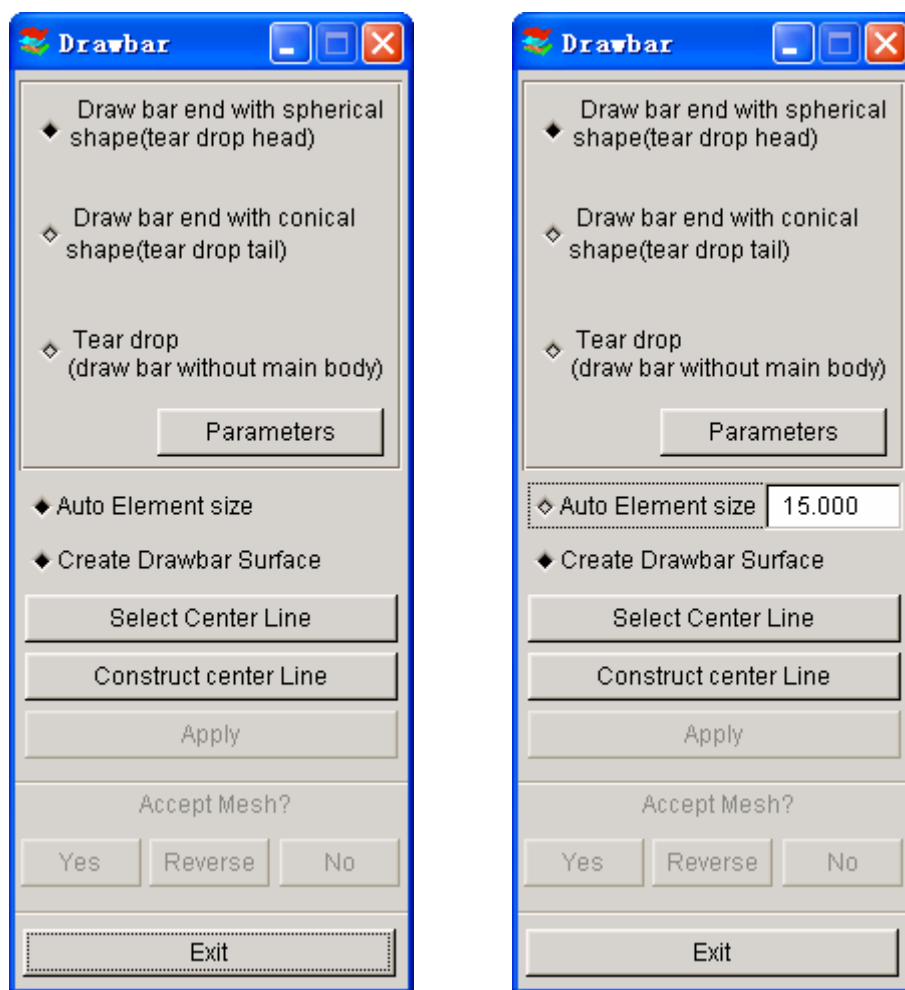

Figure 6.4.11a Drawbar with Auto Element Size Figure 6.4.11b Drawbar With User Defined Element Size
- Click the **DRAWBAR** function, Figure 6.4, and the program will display a dialog window as shown in Figure 6.4.11a. If the user wishes to define the element size of the drawbar, un-check the **AUTO ELEMENT SIZE** option. The dialog window will be changed to Figure 6.4.11b to allow the user to enter the desirable element size.